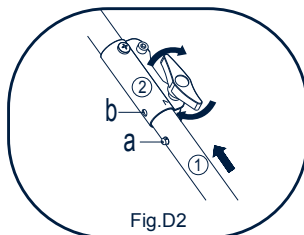

Fig.D2
- Position the tube locking/release button (a) into the guide recess (b) of the clamp. (See Fig. D2)
- Tighten the knob securely by turning clockwise. (See Fig. D2)